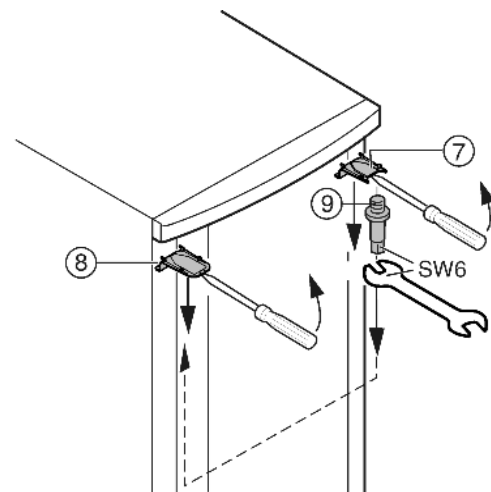

Fig. 8
- ▶ At the top, use a screwdriver to unclip cover Fig. 8 (7) and cover Fig. 8 (8) at the front, and remove by pulling out and down.
- ▶ Unscrew the bearing pin Fig. 8 (9) and screw it firmly into place on the opposite side (**with 4 Nm**).
- ▶ Refit the cover Fig. 8 (7) on the side of the bearing pin: insert at the back, snap in at the front.
- ▶ Fit the cover Fig. 8 (8) on the opposite side: insert at the back, snap in at the front.
- ▶ Hang the door on the bearing pin Fig. 8 (9) at the top.